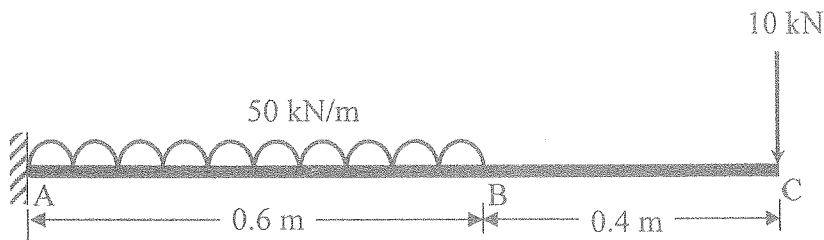

Fig. Q5.
- Q5 Consider a cantilever beam ABC shown in FigQ5. The beam is 1 m long and carrying a point load of 10 kN at free end, and 50 kN/m distributed load up to 0.6 m from the fix end. The beam AB is of greater depth than it is beyond, having $I_{AB} = 5 \times 10^6 \text{ mm}^4$ and beam BC having $I_{BC} = 2.5 \times 10^6 \text{ mm}^4$. Neglect the weight of the beam. Young modulus of the beam material is 200 GPa.